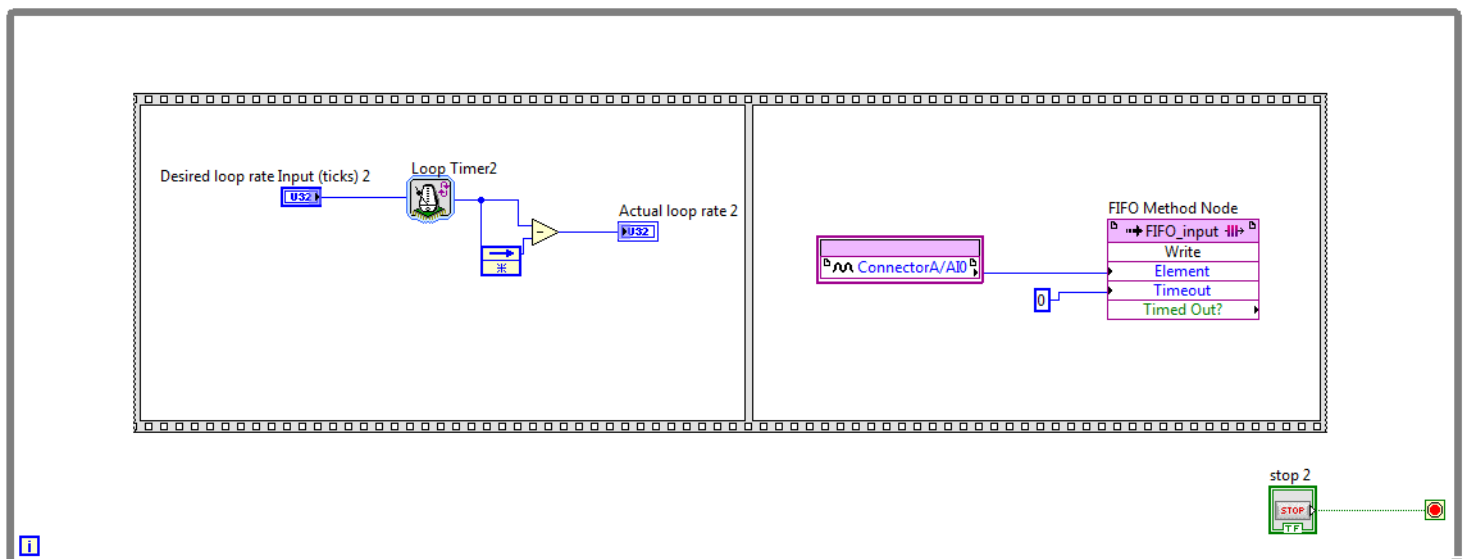

Fig. 17. Flat sequence for sampling analog input waveform.
- 1) As you remember, there was a flat sequence inside a while loop in our FPGA VI in order to generate analog waveform at AO0. Our aim is to **sample the analog waveform at the input pin AI0**. For **A/D conversion**, add the following **flat sequence** in Fig. 17 to your **FPGA VI** inside **another while loop** with **stop 2 control**.
- 2) Generate a FIFO called “FIFO_input” for **transferring the samples of analog input waveform to the CPU memory** through a DMA operation as shown in Fig. 17 by following the same steps in Experiment 2. The type of FIFO_input is “**Target to Host – DMA**” and data type is **U16**.